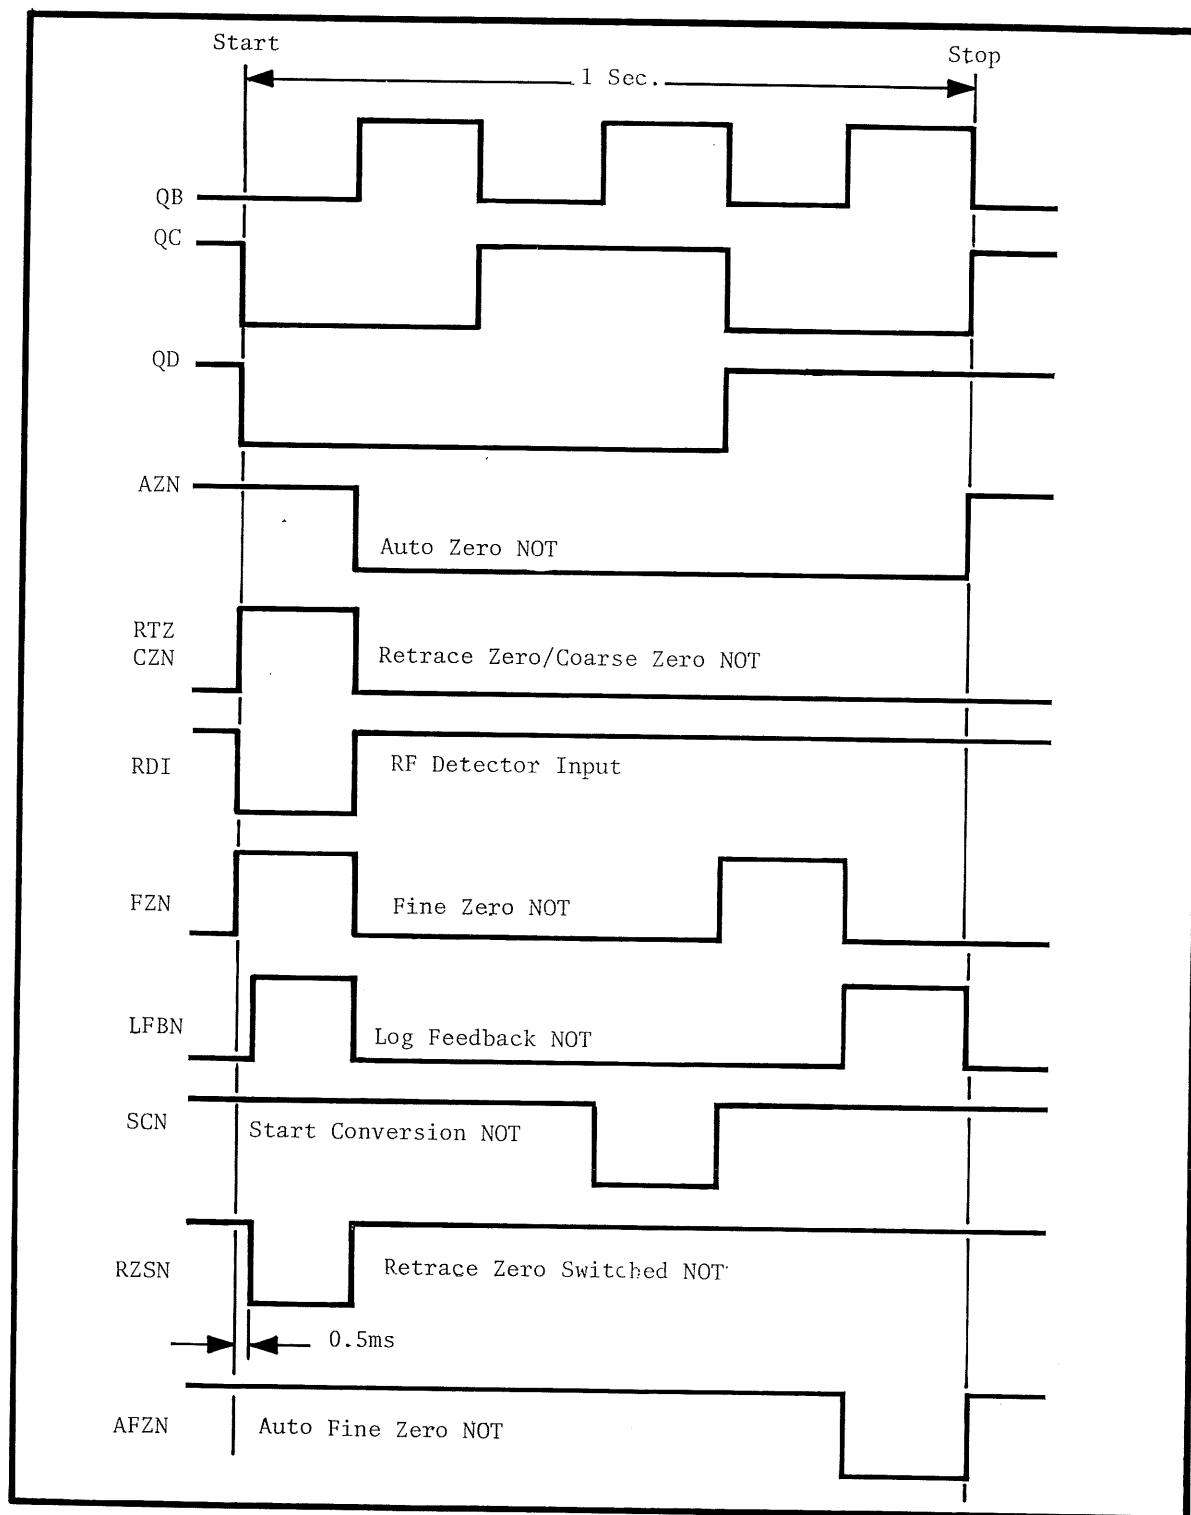

Figure 5-5 Auto Zero Timing Diagram
If the RF is not turned off during retrace, it becomes necessary to take into account the parasitic thermal potentials of the detector diode. As said before, if the RF is off the system will automatically zero itself without adjustment on the part of the operator. In the event that the RF remains on or partially on during retrace, it becomes necessary for the operator to periodically turn off the RF manually. This can be done through the bus or by physically turning off the power from the sweeper. Then, the Auto Zero button on the front of the N10 unit is pressed. This causes the N10 to go through a cycle of events to read the dc voltage on the detector. When the Auto Zero button is pressed, the circuitry performs a normal retrace zero (just discussed) wherein the voltage on capacitor C72 is updated and the N10 is properly zeroed with U30 switched to ground. The cycle is then repeated with the detector in the circuit so that the second zero will take into account any parasitic thermal voltage from the detector. In order to do this, the first part of the cycle is a coarse zero which makes use of successive approximation register U2 and DAC (Digital to Analog Converter) U3. U3 is fed through U10A (part of the DAC) and then back through switch U18 and R34 to correctly zero the Preamp in the coarse mode. U2 is triggered and goes through a successive approximation (normal A to D conversion) with U1B monitoring the voltage at the output of U19D through R74. (C74 eliminates noise spikes.) The successive approximation goes rather slowly, with each step taking 1/16th of a second. (See Figure 5-5 for the Timing Diagram.) All of the above occurs after the Auto Zero button has been pressed. A signal comes into the Preamp through pin 6 from the N10 microprocessor that says an Auto Zero is required. When the
Refer to Figure 5-5, Auto Zero Timing Diagram, for the logic associated with the Auto Zero function. The logic is basically a clocking sequence which is counted down through U15A and U15B (a 16 Hz signal is used as the trigger frequency to operate the successive approximation register). A series of signals are derived that allow various events to take place. U15A & B are counters, and U23 is a state decoder which selects three modes of operation. U23 allows: (1) retrace zero, then (2) the time interval for the coarse zero cycle, then (3) a one second time interval for the fine zero cycle. U16A, B, and C comprise a three bit comparator. The output of this array is true if the three most significant bits of U2 are equal. This will happen if the correction called for is at the extreme limits of either end. In other words, if it is desired to have one polarity of correction to equal an all true (1's) condition out of U10A, the opposite polarity of correction would equal an all false condition (0's). This indicates that the DAC is at the farthest limit of its ability to correct. This logic signal is fed to pin 12 of U17A (Zero Error). A Zero Error would be indicated if the operator left the RF on when trying to zero the N10 and the signal was too large for the instrument to correct or, if an unused channel were left on that did not have a detector attached. Then the zeroing process would have to be repeated after the RF was removed or the unused channel turned off. The final output of U23 (pin 6 — indicates zeroing process is over) will clock U17A. This means that the "Zero Error" will set U17 to produce an output that does two things: (1) connects an output signal called "Zero Lamp Off" (pin 9 at the input of the Preamp) through U8C and D to a 4 kHz clock from U15A. This causes the front panel "Auto Zero" lamp to start flashing to indicate